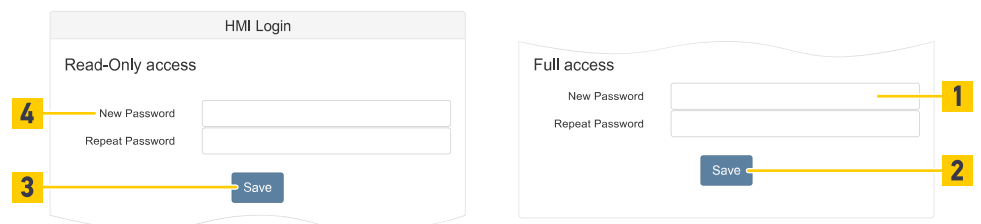

Fig. 139: Changing Passwords
- Enter the new password for Read-Only access (Fig. 139 /4) twice.
- Confirm the modifications with the Save button (Fig. 139 /3).
- Enter the new password for Full access (Fig. 139 /1) twice.
- Confirm the modifications with the Save button (Fig. 139 /2).